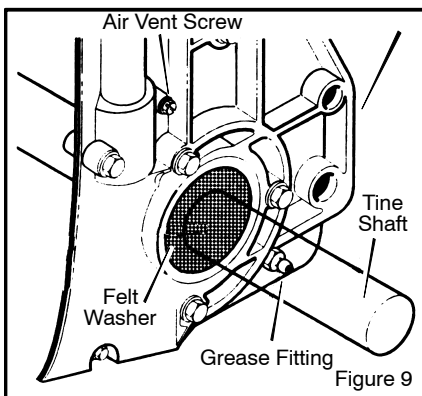

Figure 9
Every 25 hours and/or at the beginning of each season, make sure the gear box is filled with lubricant (see Figure 9). Tubes of gear lubricant are available from most automotive supply stores. Use portable tool grease such as Lubriplate 630AA (Product No. 06787, 1-3/4 oz. tube) or Lubriplate GR-132 (Product No. 15892, 10 oz. tube).
After cleaning and before storage, apply oil to the **tine shaft** (see Figure 9).
2. Remove the **air vent screw** (see Figure 9).
5. Check the condition of the **felt washer** (see Figure 9). Replace the **felt washer**